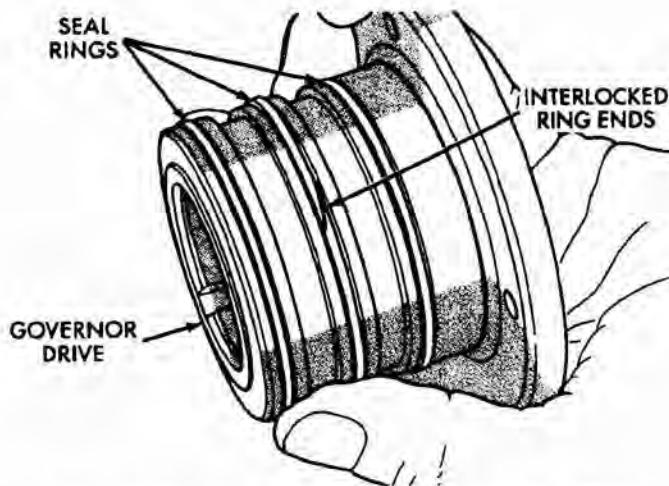

Fig. 43 Governor Drive Seal Ring Installation
- (c) Verify that diagonally cut ring ends are properly interlocked (Fig. 43).